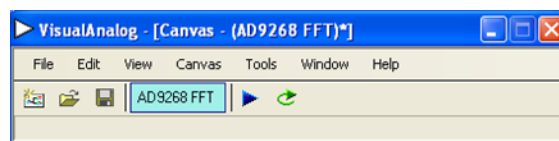
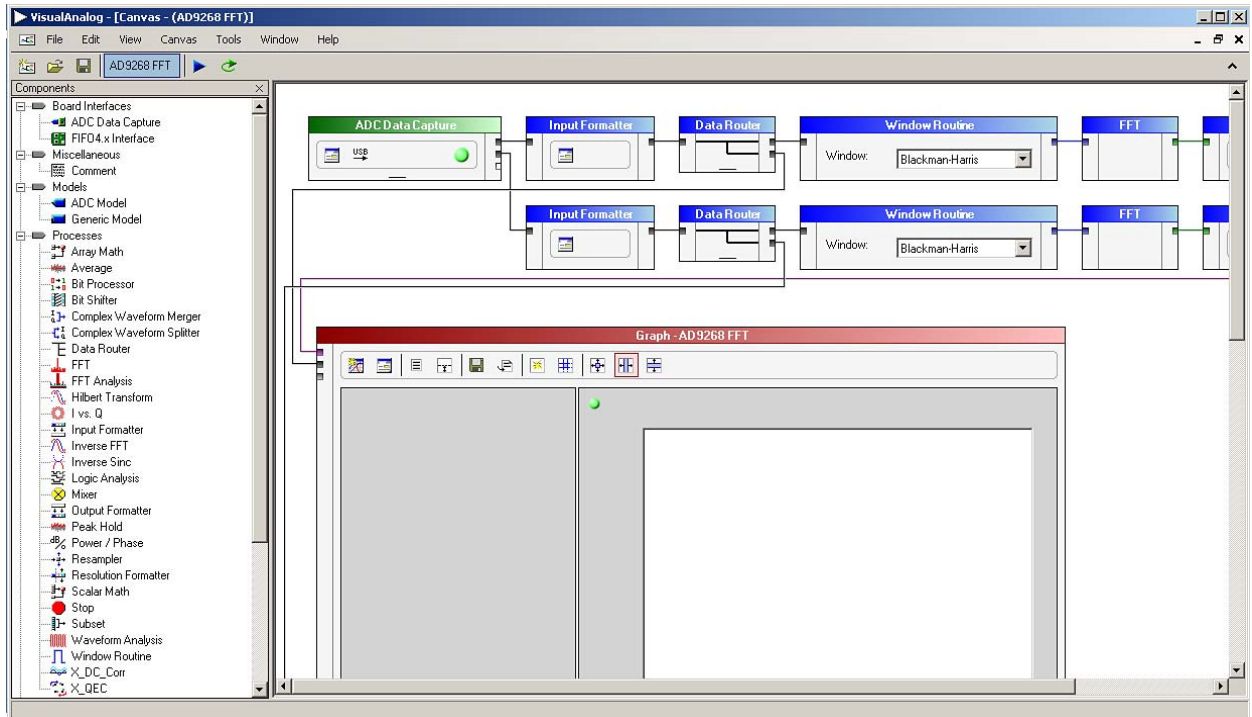

Figure 7. VisualAnalog Window Toolbar, Collapsed Display
Figure 8. VisualAnalog, Main Window
3. To change features to settings other than the default settings, click the **Expand Display** button, located on the bottom right corner of the window, to see what is shown in Figure 8. Detailed instructions for changing the features and capture settings can be found in the AN-905 Application Note, *VisualAnalog Converter Evaluation Tool Version 1.0 User Manual*. After the changes are made to the capture settings, click **Collapse Display** (see Figure 7).